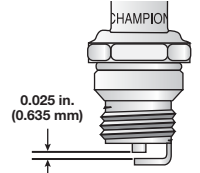

Fig. 32
3. Replace a cracked, fouled or dirty spark plug. Set the air gap at **0.025 in. (0.635 mm)** using a feeler gauge (Fig. 32).